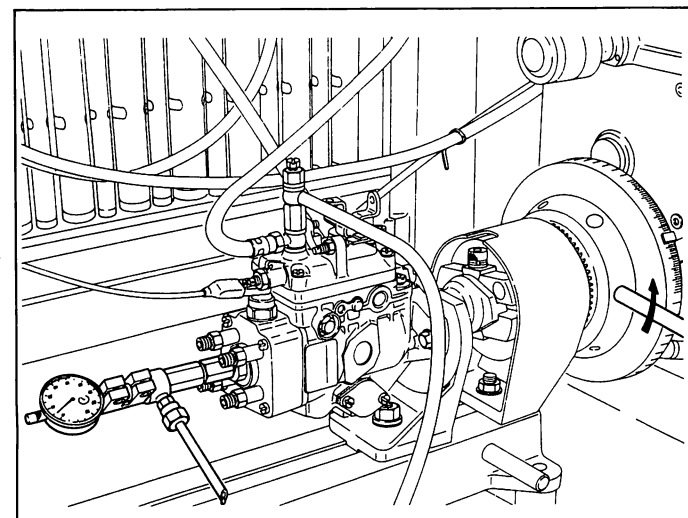

Fig. 102 Measuring the pre-stroke
5. Rotate the injection pump manually in the specified direction and measure the plunger pre-stroke from the indication of the dial gauge when the test oil ceases flowing. (Fig. 102)
**Note:** If not within the specified range, adjust it by exchanging the shim (52) with a suitable one until it is as specified.